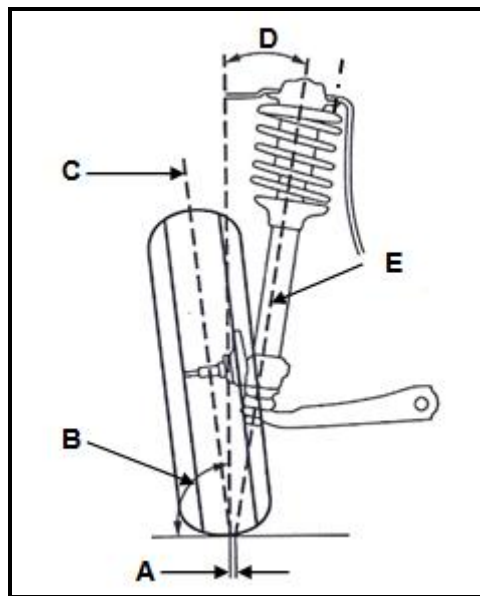

FIGURE 10.3
- 10.3 FIGURE 10.3 below shows the king-pin inclination on the suspension of a motor vehicle. Answer the questions that follow.